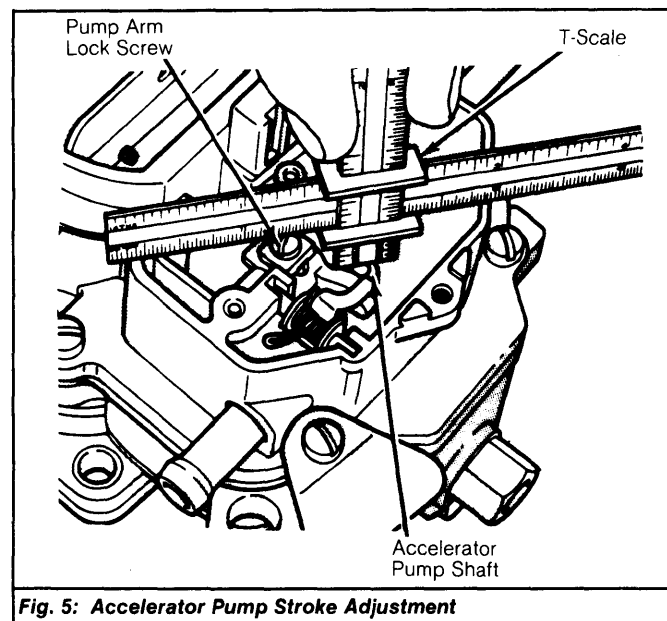

Fig. 5: Accelerator Pump Stroke Adjustment
1) Remove step-up piston cover plate and gasket. Back off curb idle speed screw until throttle valves are seated. Count number of turns required to seat throttle valves. Fast idle cam must be in open choke position. See Fig. 5.